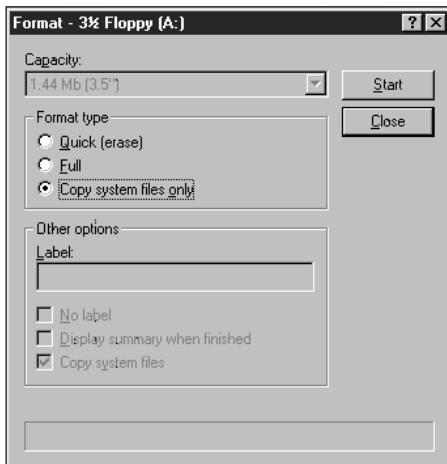

Figure 5-9 Format a disk in Microsoft Windows 9x
- 2 Click **Format** on the menu. The dialog box shown in Figure 5-9 opens. Notice that you have three format options: Quick format (does not re-mark the tracks), Full format, or an option to copy just the system files to the disk (same as DOS SYS command).